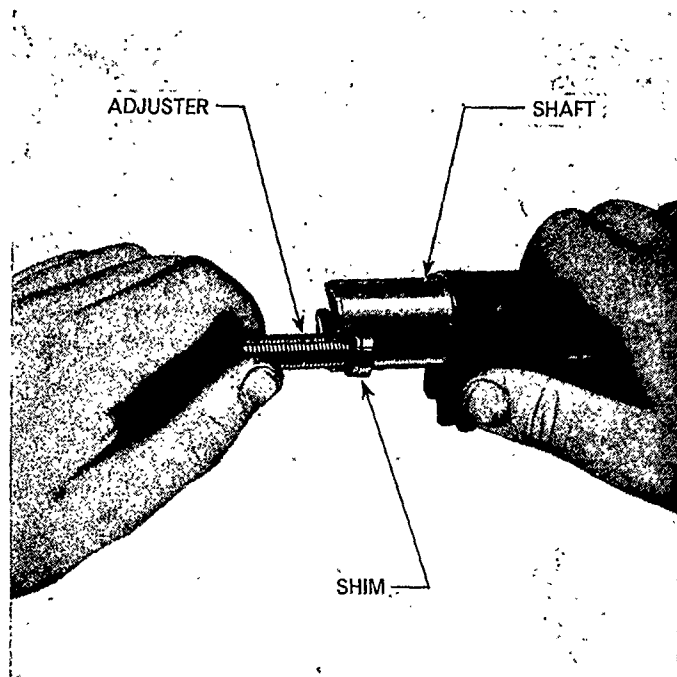

Figure 7
3. Select the appropriate shims for the rocker shaft adjusters to provide a clearance of 0.000 to 0.0002 in. (0.000 to 0.051 m.m.), between the adjuster head and the shaft and inside the 'T' slot, Figure 7.